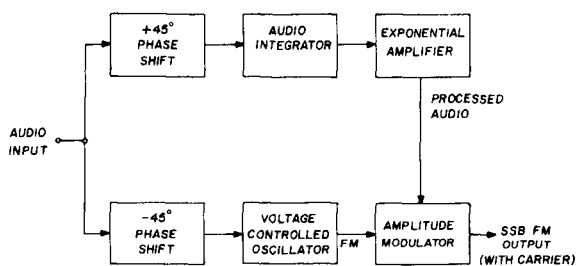

fig. 3. System block diagram of a working ssb fm generator (after Dubois and Aagaard, reference 3).
Fig. 3 shows the corrected system, and this arrangement does produce ssb fm. It is basically the same arrangement used by Dubois and Aagaard in their pioneering experiments in the middle 1960s.³
2. An ssb pm generator can be built from fig. 3 by eliminating the audio integrator and replacing the vco with a true phase modulator. Therefore the circuitry is simpler.